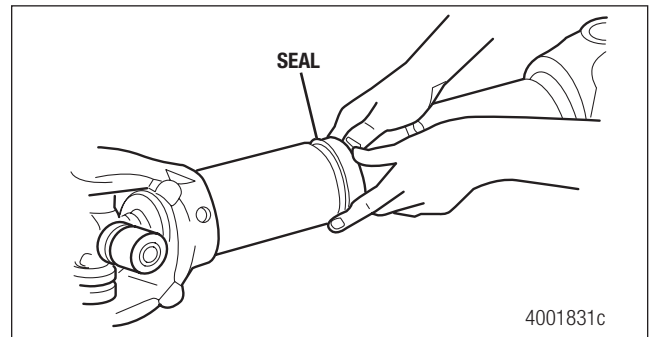

Figure 9.13
7. Snap the seal into the groove. Figure 9.13.